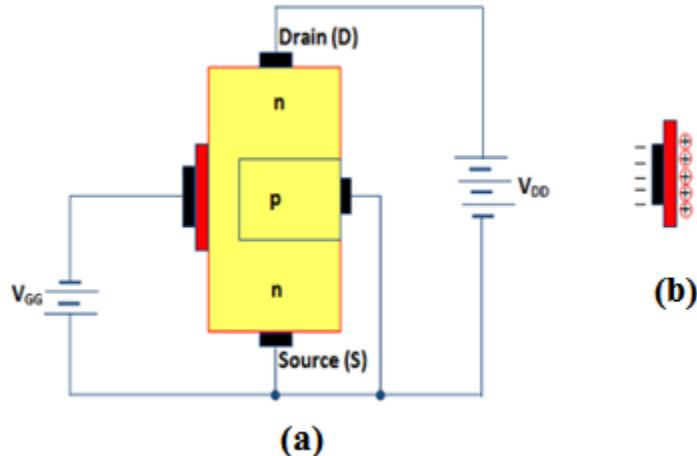

**Fig. 4.17 Symbol for n-channel D-MOSFET**
- The substrate is connected to the source as shown in Fig. 4.17. This gives rise to a three terminal device.